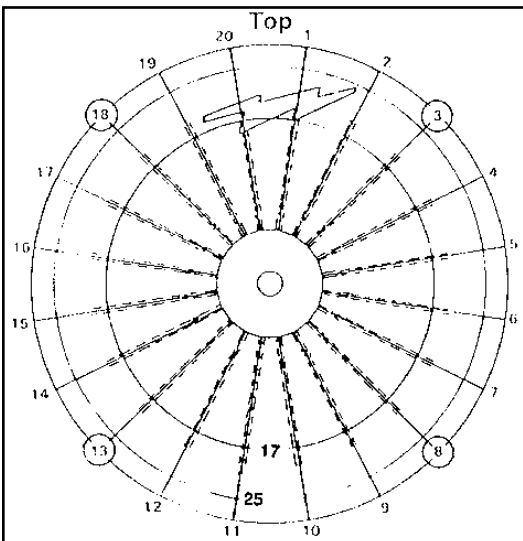

Figure 40
- Step 1** Refer to Figure 40. Each panel segment has a scribe line, which defines the circumference of all corresponding screw locations at the number 17 position.